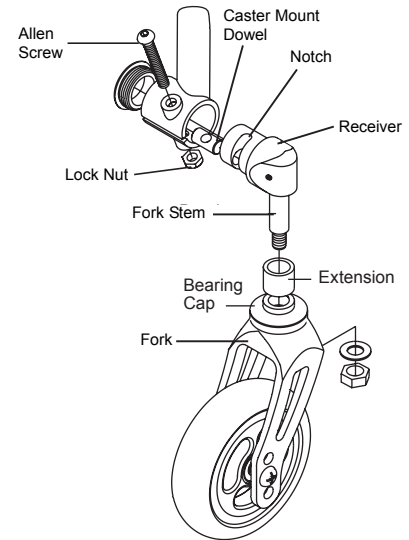

Figure 113
Fork extensions are available for ZRA and Aero Z wheelchairs (not ZR wheelchairs). See Figure 113. Because extensions require a longer fork stem and because the fork stems are permanently attached to the receiver, it is necessary to replace both the receiver and the fork stem if you wish to add extensions to raise the front seat height.
2. Completely remove the Allen Screw and locknut that secure the receiver to the frame. See Figure 113.